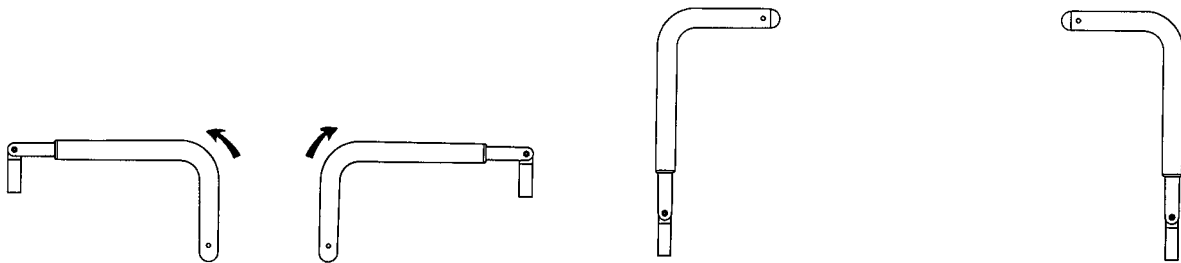

Figure 4 – Positioning the head end push handles
1. Pivot the handles up from the end of the product (Figure 4).